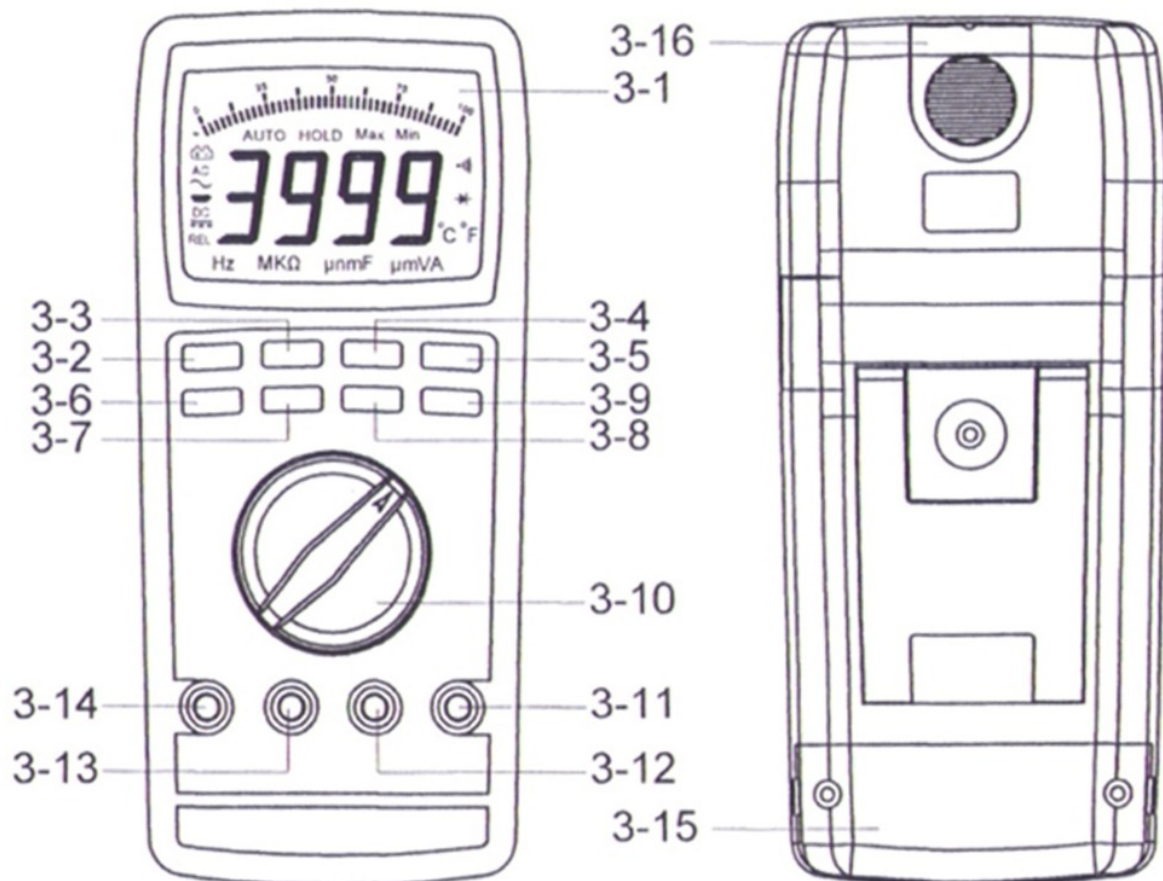

Fig. 1
- a. When not use the meter, should rotate the " Function rotary switch " ( 3–10, Fig. 1 ) to the " OFF " position.
***Press the " MAX/MIN button " ( 3–2, Fig. 1 ) while turning the " Function switch " from the " OFF " position to the desiring function position.***
- 1) Connect BLACK test lead into " COM " terminal ( 3–12, Fig. 1 ).
- 2) Connect RED test lead into " V " terminal ( 3–11, Fig. 1 ).
- 3) Select the " Function rotary switch " ( 3–10, Fig. 1 ) to the " V " position.
- 4) Push the " AC/DC button " ( 3–9, Fig. 1 ) to select the " ACV " or " DCV " measurement,
- 6) Under the operation of " auto range " mode, push the " Range button " ( 3–6 Fig. 1 ) once will execute the " Manual Range " mode and hold the range, the LCD will show the " MANU " marker.
Under the manual range operation, push the " Range button " ( 3–6 Fig. 1 ) > 2 seconds, will return to auto range operation.
*During the measurement, if push the " VAHz button " ( 3–7 Fig. 1 ) once, until the LCD show the " Hz " marker and the display will show the frequency value of the measurement signal.*
- 2) Connect RED test lead into "  $\Omega$  " terminal ( 3–11, Fig. 1 ).
- 3) Select the " Function rotary switch " ( 3–10, Fig. 1 ) to the "  $\Omega$  " position.
- 5) Under the operation of " auto range " mode, push the " Range button " ( 3–6 Fig. 1 ) will execute the " Manual Range " mode and hold the range, the LCD will show the " MANU " marker.
- 2) For the " mA, uA " measurement, connect RED test lead into " mA uA " terminal ( 3–13, Fig. 1 ).
For the " 10 A " current measurement, connect RED test lead into " A " terminal ( 3–14, Fig. 1 ).
- 3) For the " uA " measurement ( 400 uA, 4000 uA ), select the " Function rotary switch " ( 3–10, Fig. 1 ) to " uA " position.
For the " mA " measurement ( 40 mA, 400 mA ), select the " Function rotary switch " ( 3–10, Fig. 1 ) to " mA " position.
For the " 10 A " measurement, select the " Function rotary switch " ( 3–10, Fig. 1 ) to " A " position.
- 4) Push the " AC/DC button " ( 3–9, Fig. 1 ) to select the " ACA " or " DCA " measurement,
- 3) Select the " Function rotary switch " ( 3–10, Fig. 1 ) to the "  " position.